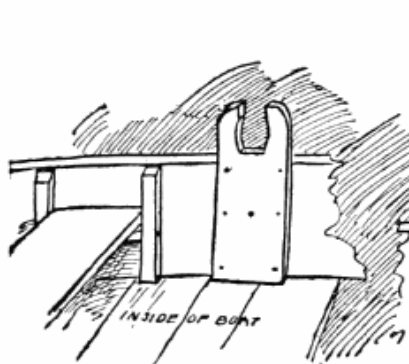

Fig. 200.
If you are building your boat out of the convenient reach of the hardware shop, you must make your own rowlocks. Fig. 200 shows the crude ones formerly used by the raftsmen for the Yankee pines, and Figs. 203 and 204 show rowlocks made with the oaken or hard-wood thole-pins fitting in holes cut for that purpose in the form of notches (U, Fig. 204) in the side of the boat, or as spaces left between the blocks, as shown by R (Fig. 203). When the side-boards A, A of the boat are notched a cleat of hard wood 5 or 6 inches wide, and extending some distance each side of the side-boards, must be used, as is shown by diagram V (Fig. 204) and Fig. 203. The diagram R (Fig. 203) explains itself; there is a centre block nailed to the side-board and two more each side, leaving spaces for the thole-pins T (Fig. 203) to fit and guarded by another piece (R) bolted through to the sides.